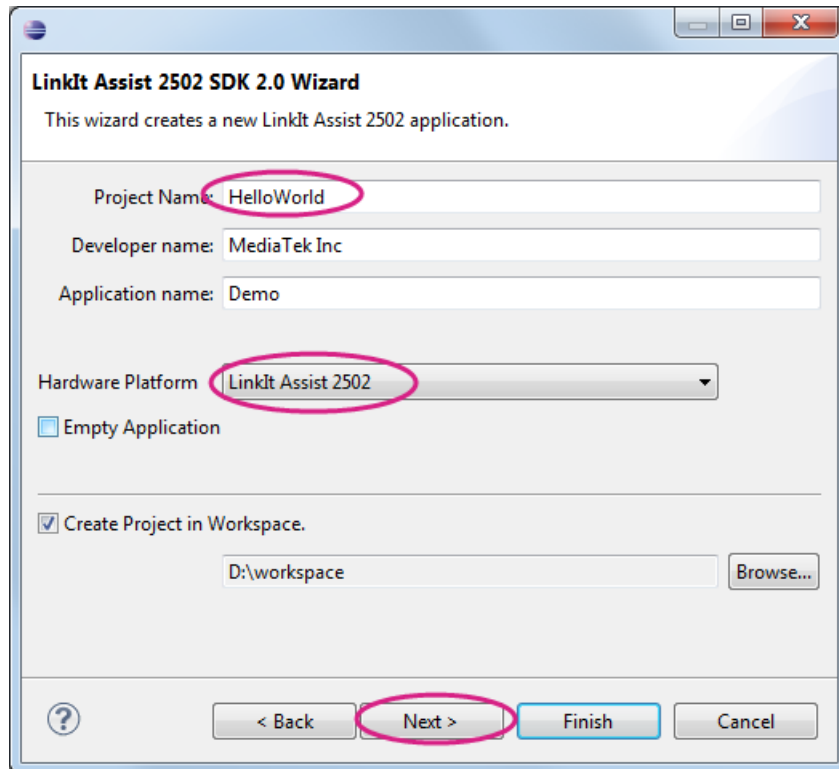

Figure 18 Selecting the right hardware platform
- 3) The **LinkIt Assist 2502 SDK 2.0 Wizard** window displays. Change the project name and make sure the **Hardware Platform** matches your development board, as shown in Figure 18. Click **Next**.